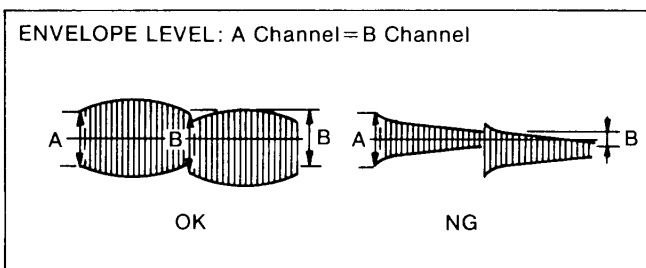

Figure E8
3. Adjust VR2206 so that the RF envelope becomes the same level between A and B portions as shown in Figure E8.